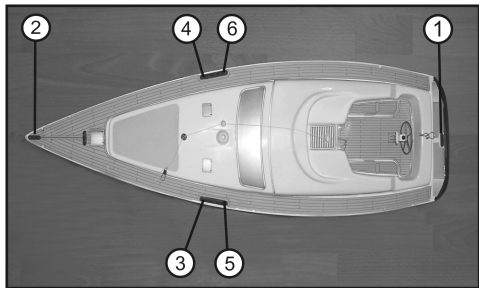

Figure 10
- Figure 10 shows where the rope has to be attached (e.g. rope with number 2 to position 2 at the fuselage, see figure 10).